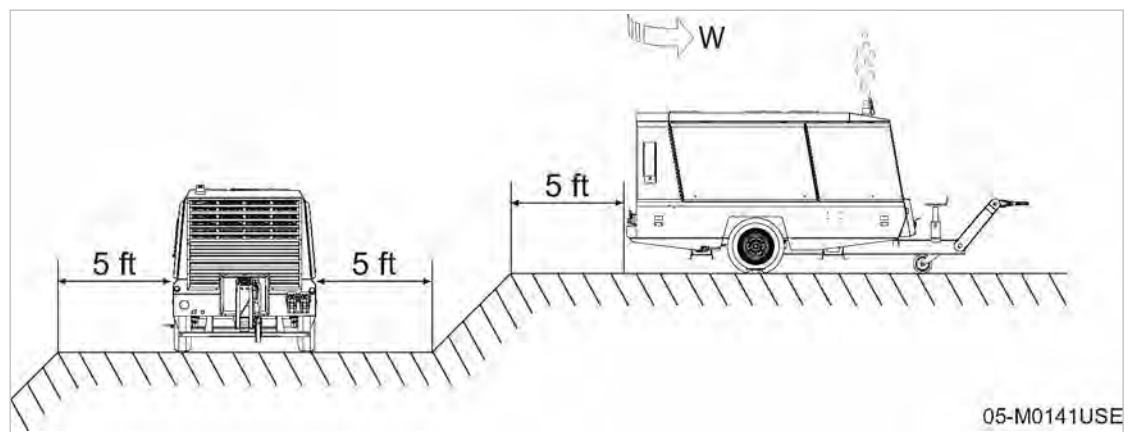

Fig. 18 Minimum distance from excavations/slopes and walls
- Do not allow exhaust gases and heated cooling air to be drawn into the compressor. Note the wind direction! (see figure 18)